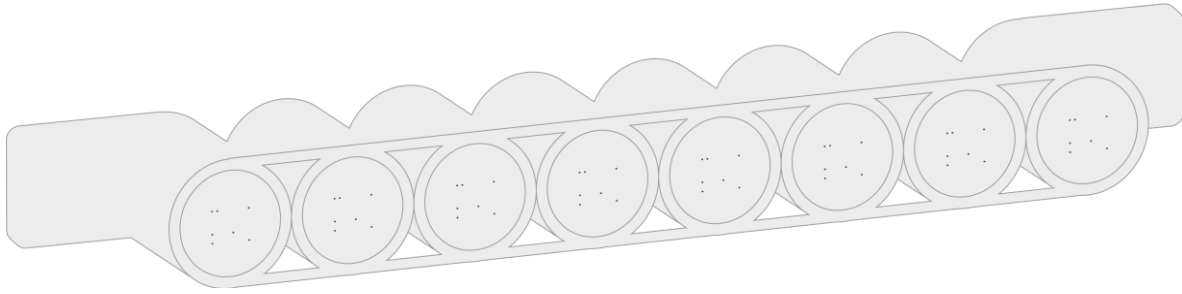

Figure 1. CLART-Strip® in the form of an 8-well strip.
Displayed in Figure 1 is a CLART-Strip® (CS), each well including all specific probes for testing one sample.